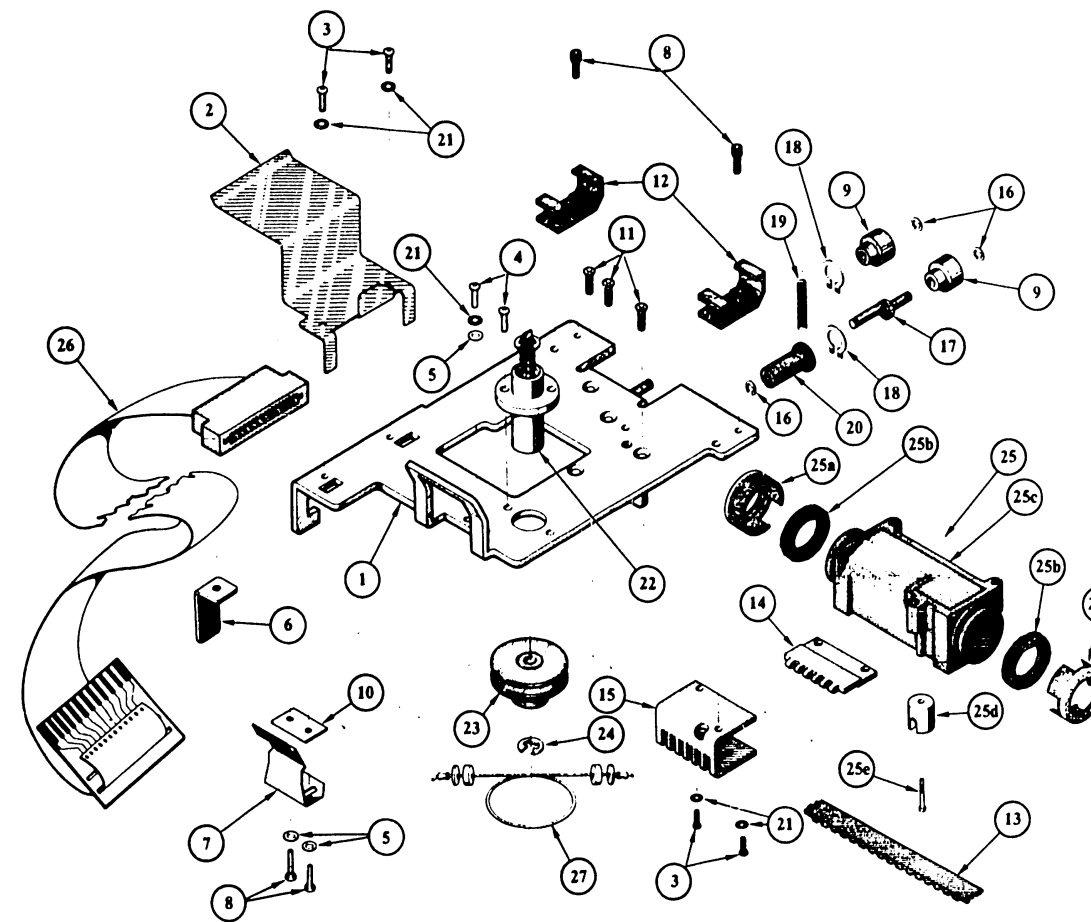

FIGURE 8-6 CARRIAGE ASSEMBLY
8.3.6 CARRIAGE ASSEMBLY PARTS LIST (SEE FIGURE 8-6)